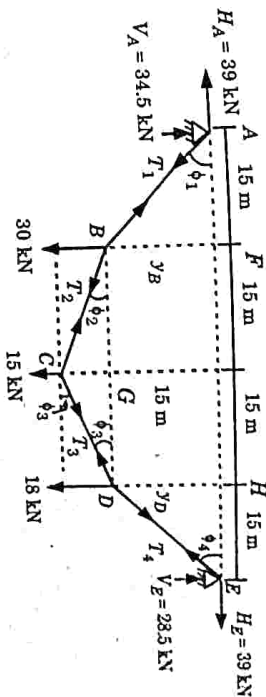

Fig. 14.
- i. Taking moment about point B (Left part of Fig. 14),  $\sum M_B = 0$
- ii. Taking moment about point D (right part of Fig. 14),  $\sum M_D = 0$